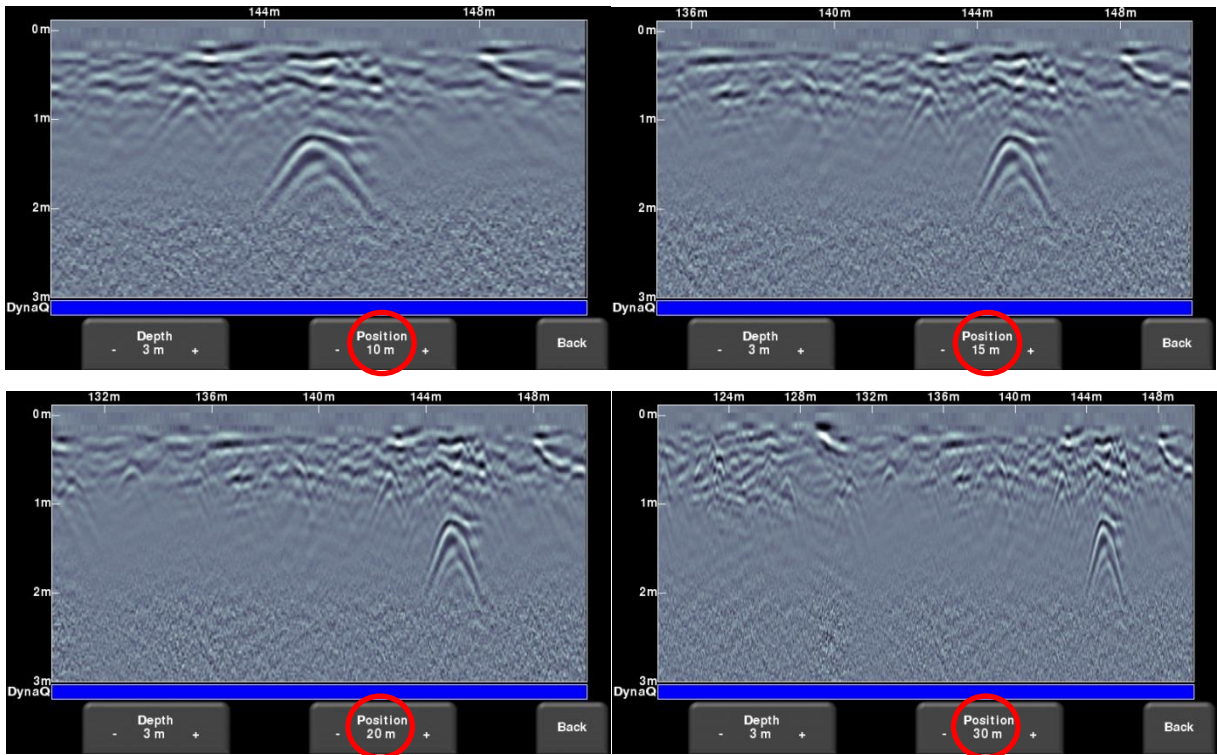

Figure 8-8: Varying position, or horizontal scaling
- **Position** – Pressing **+** and **-** under the **Position** button allows you to change the length of data display on a single screen. This is also known as horizontal scaling. The pre-set values range from 10m to 30m (25' to 100'), see Figure 8-8.